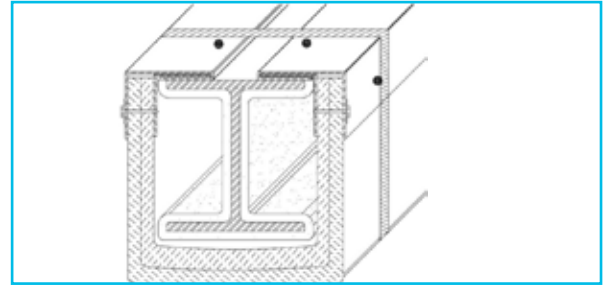

Figure 4
- 5 Second layer of the E-Mat will be cut to length and attached to the galvanized aluminum flashing utilizing 38 mm (1.5 in) # 14 Self tapping screws with a 30 mm (1.25 inches) fender washer. Material will be secured to the flashing 75 mm (3 inches) in from each edge of the material and then again in the centre of the material. No greater than 265 mm (10.5 in) on centre. (Figure 4). The butt seam where the two pieces meet on the final layer (perimeter joint) is to be covered with 3M™ Aluminum Foil Tape 437 100 mm (4 in).